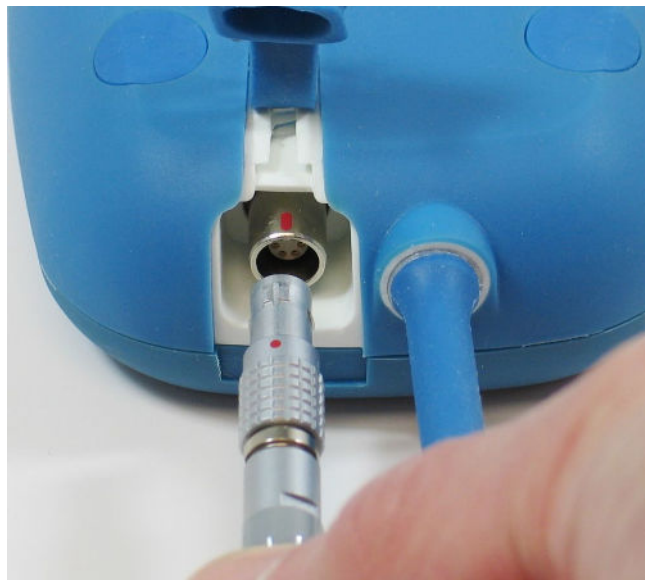

Figure 33: Alignment of the DC Output and Guardio Charger Connectors
4. Line up the red dot on the DC output connector of the AC Adapter with the red line on the power input connector of the Guardio Charger and then insert in the DC output connector into the power input connector. **See Figure 33.**